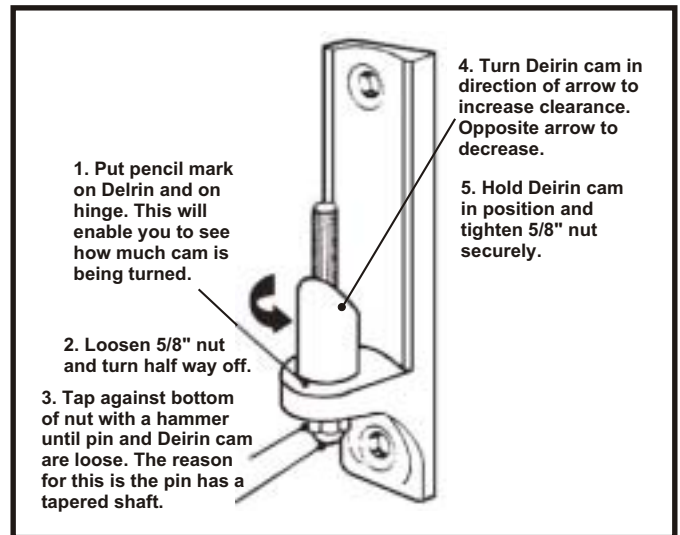

Fig. 2
2. Adjust the hinges as shown in Fig. 2.